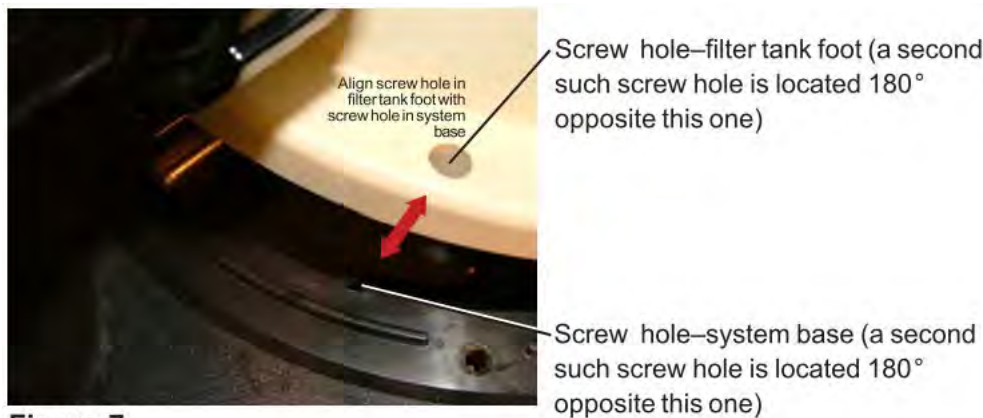

Figure 7
1. With the filter tank inlet aligned toward the pump, identify which screw holes in the system base align with the screw holes in the tank foot (see Figure 7).